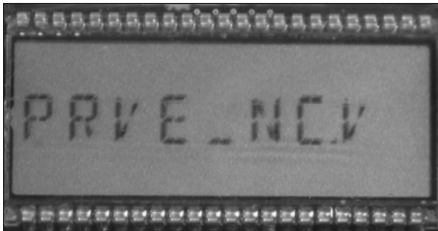

Figure 8 - LCD screen changes to **PRVE_NC.V**
- C. Hold the magnet for about five seconds on the word “swipe” until the display changes to **PRVE_NC.V** (Figure 8). The ES3 is now ready to be proved using the non-compensated volume output.